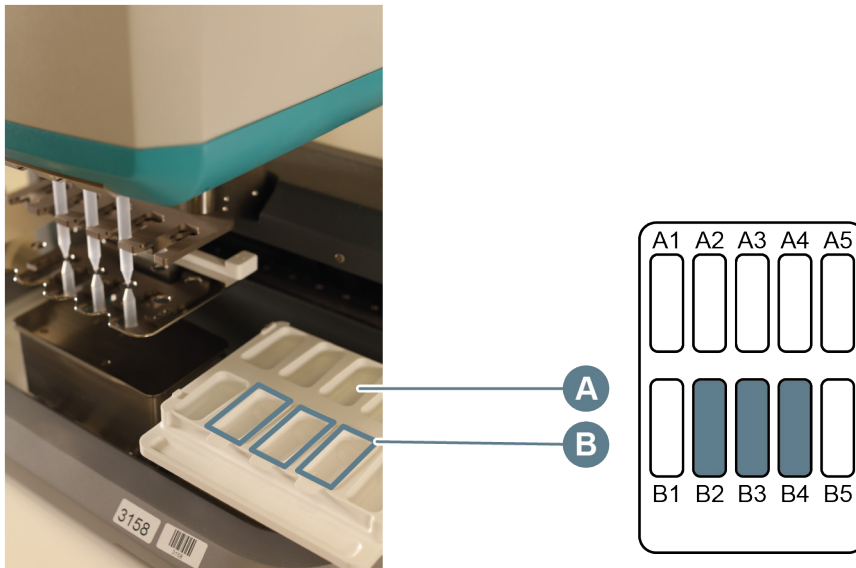

Figure 12. Reservoir tray in filling position
3. Slide the reservoir tray to the filling position (A) and place three new reservoirs in position B2, B3 and B4 (B) (*Figure 12*).